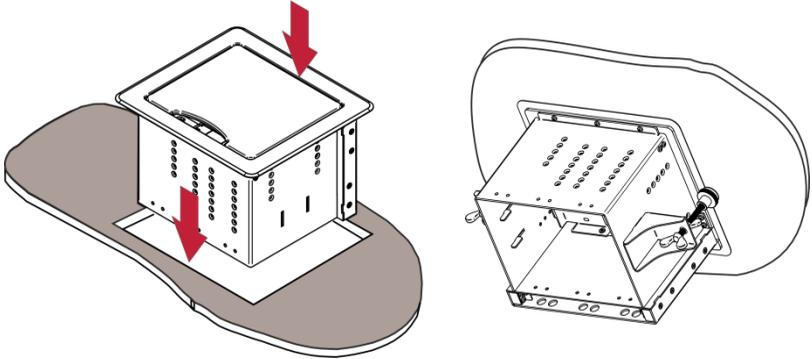

Figure 9: Inserting TBUS-1N into the Prepared Opening
2. Carefully insert the unit into the prepared opening (see Figure 9).
5. Tighten both mounting butterfly screws upward until they reach the table surface (from underneath). Tighten firmly (see Figure 9).